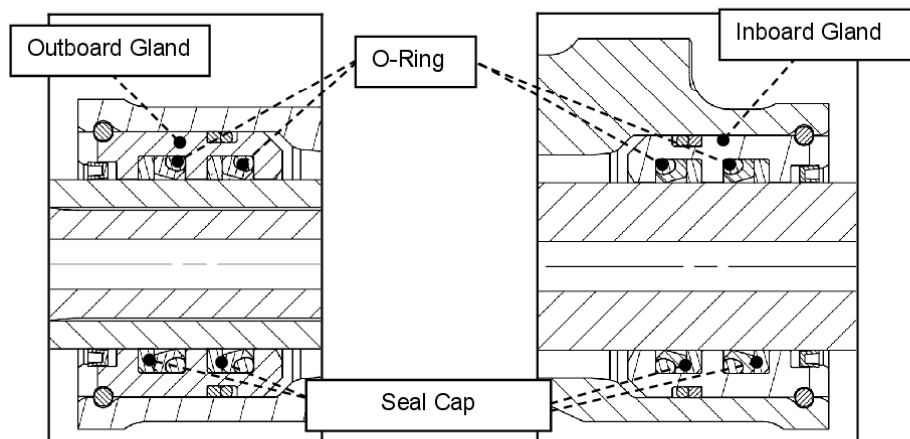

Figure 2: Dynamic Seals Orientation in the Inboard and Outboard Glands
- Refer to Figure. 2. Install the O-Ring P/N 081341, the Seal Cap and Back-Up Ring P/N 085366 and Scraper Ring (P/N R2001-118-S-043) to the internal bores of each of the Outboard and Inboard Glands (P/N 71839-82).